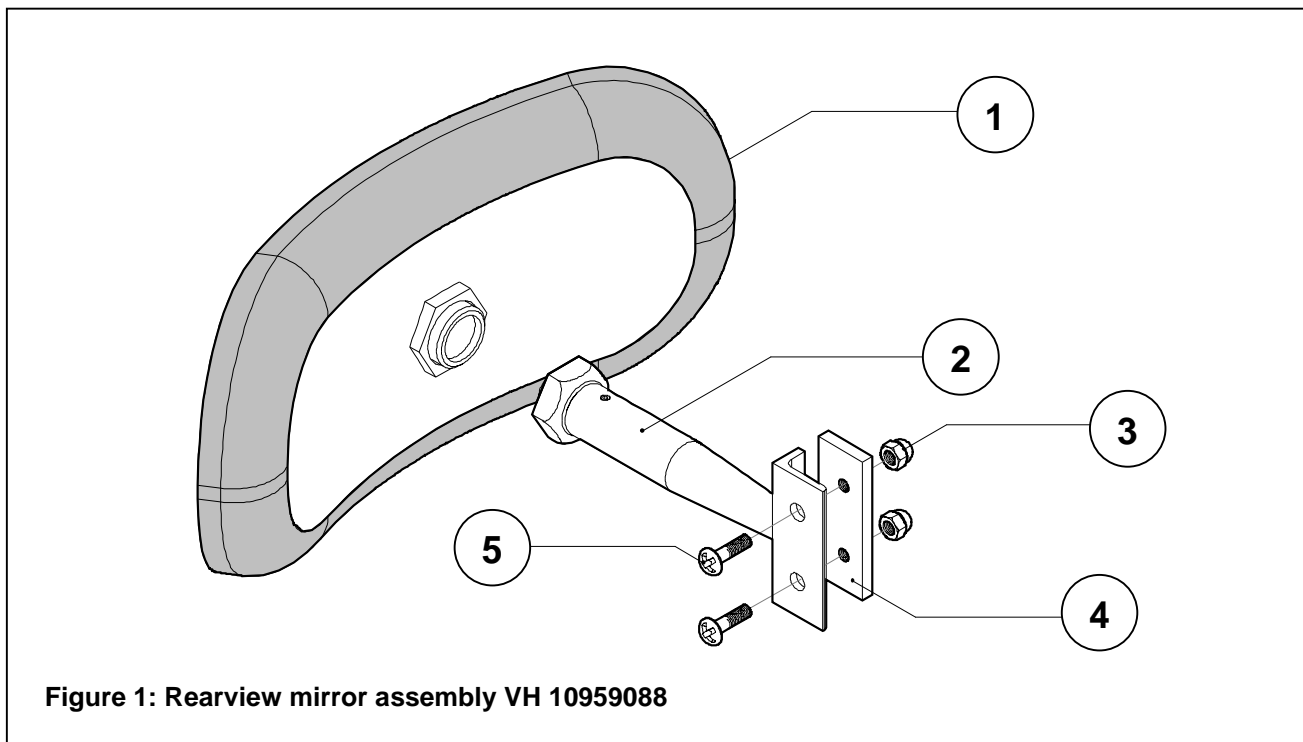

Figure 1: Rearview mirror assembly VH 10959088
The assembly contains following parts (see Figure 1):
- 7) Assemble the support, the round head screws and the closing plate as shown in Figure 1.